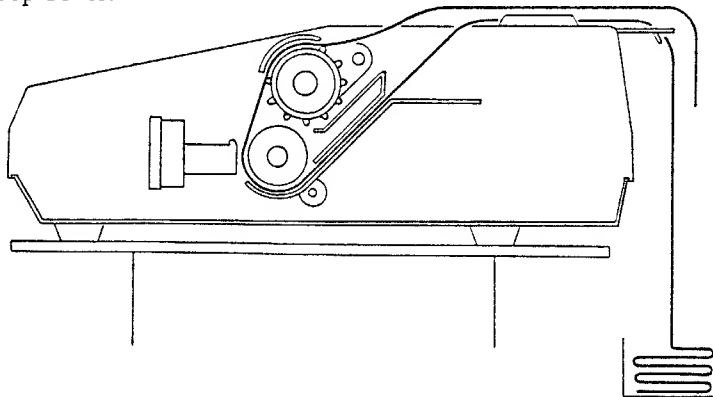

Figure 8. Fanfold Paper Loading
3. Move the Print Head Control Lever away from the paper. Refer to Figure 8.